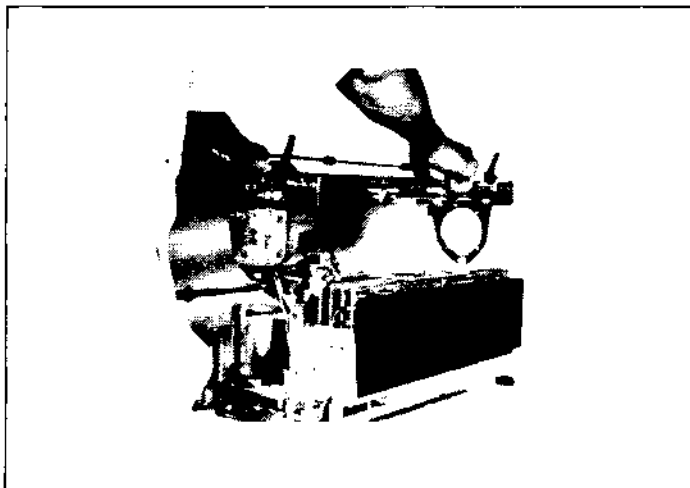

Figure 3-10. Carrier System Removal
(6) Carefully lift the carrier subassembly, including the paper feed drive motor, free of the printer main frame, as shown in Figure 3-10. Be sure the motor wires are free and not caught in the wire bundle.
(2) Carefully lower the carrier subassembly into position on the printer main frame. Refer to Figure 3-10.
(3) Insert the left- and right-hand rear carrier subassembly shoulder support screws removed in Section 3.3.7 removal procedures, Step (5), using the TORX T15 screwdriver. Make sure the screw shoulders pass into the slots in the carrier side frame, and tighten the screws firmly, but DO NOT overtighten and strip the threads from the holes in the main frame casting.
(4) Insert the left- and right-hand front carrier subassembly height adjustment eccentrics removed in Section 3.3.7 removal procedures, Step (5), using a 1/4" wrench or nutdriver. Make sure the shoulders of the eccentrics pass into the slots in the carrier side frames, and thread the screws in enough to retain the eccentrics snugly in the slots, but do not tighten. The eccentrics should be positioned so their lobes point toward the rear of the machine.
(5) Use the #99009 T-Handle Spring Hook to connect the loose ends of the four carrier subassembly load springs to the main frame making use of the holes provided. Section 3.3.7 removal procedures, Step (3), detailed the unhooking of these springs for the old subassembly just removed.
(6) Arrange the four wires from the paper feed motor into the wire bundle running along the edge of the mother board, and connect them to the push-on terminals on the mother board as follows: gray wire to terminal T4; black wire to terminal T5; yellow wire to terminal T6; and the red wire to terminal T7. Secure the wire bundle with plastic cable ties or equivalent.